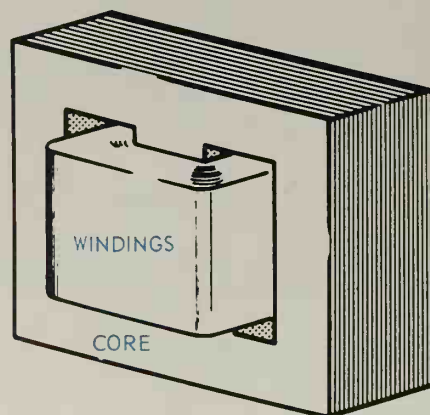

Fig. 8-23. Shell type core construction of a transformer.
2. A more popular method of construction, and also more efficient, is the SHELL TYPE CORE shown in Fig. 8-23. It, too, is made up of laminations covered with varnish and pressed together. The windings are wound in layers and fit over the center section of the core.